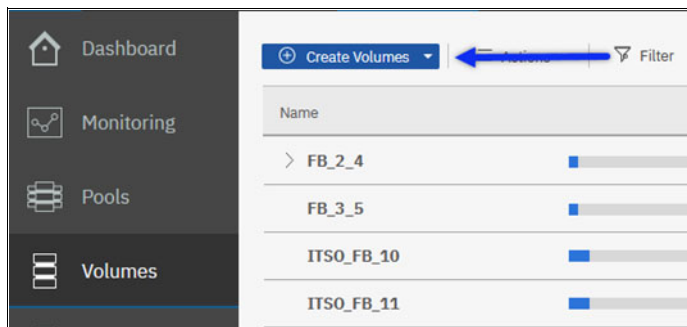

Figure 9-47 Volumes by Pool
2. Selecting one of the first two options opens a view that lists all the volumes or pools on the system. Figure 9-47 shows the Volumes by Pool view.